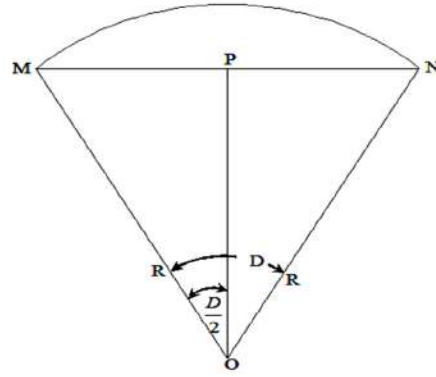

Figure 2.4 Representation of the degree of curve
A simple circular curve may be designated either by its radius or by the angle subtended at the centre by a chord of a particular length. In India, a simple circular curve is designated by the angle (in degrees) subtended at the centre by a chord of 30 m (100 ft.) length. This angle is called the *degree of curve* (D). The relation between the radius and the degree of the curve may be established as follows (Refer Figure 2.4).